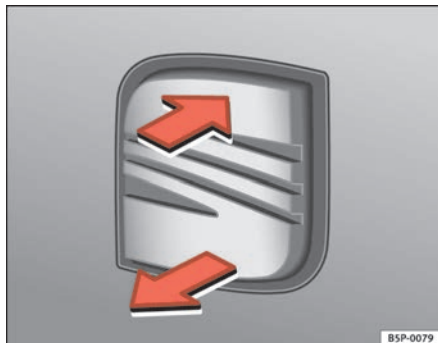

Fig. 46 Tailgate: opening from the outside
- Pull on the release lever and lift the tailgate ⇒ fig. 46. The tailgate will open automatically.